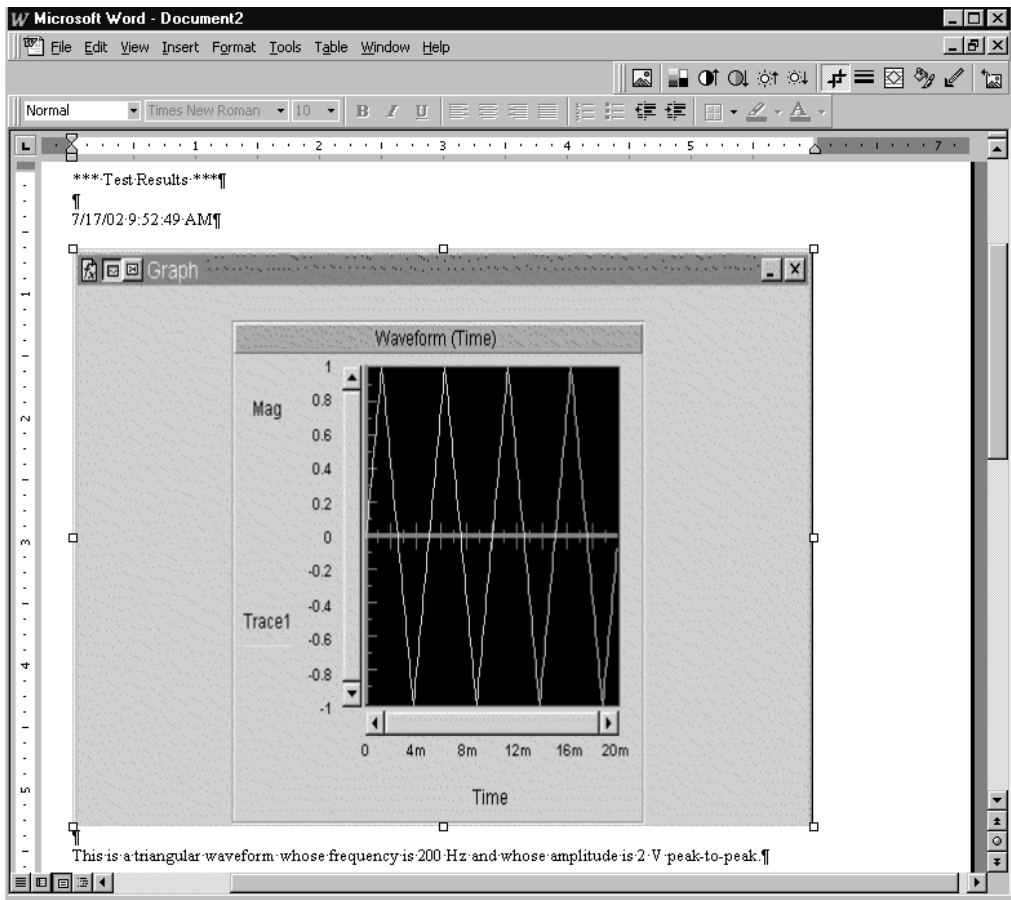

Figure 9.13. A Microsoft Word™ document containing graph and an explanatory statement
27. Run this program; move the graph downward with the “down-arrow” key so the “Test Results” and date appear above the graph; add whatever statements you prefer. An example is shown in Figure 9.13.